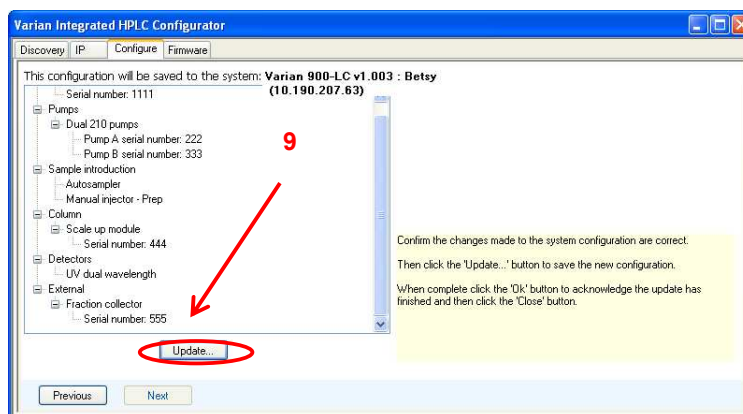

Figure 25: Update screen
6. The final window shown is the Update window. Click *Update* (9) and the configuration on the 940-LC is updated (Figure 25).